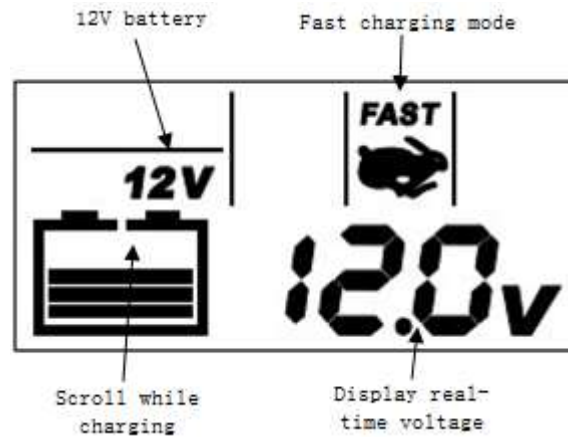

Fig. 9
B. Pre-charge, constant current & constant voltage charging: clamp the output terminal to the battery to identify 6V or 12V battery; for 6V battery, it will start charging in 6V/slow mode immediately; for 12V battery, it enters 12V/slow mode by default; you can press the MODE button to switch among the three modes sequentially(Slow/Fast/Low Temp), each time you press the button, the backlight is turned on for 10 seconds; the display effect is shown in Fig. 9;